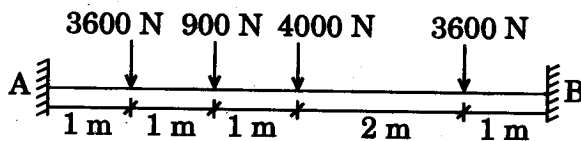

Figure 7
8. Find the fixed end moments and plot S.F. and B.M. diagrams for the beam loaded as shown in Figure 7. 10